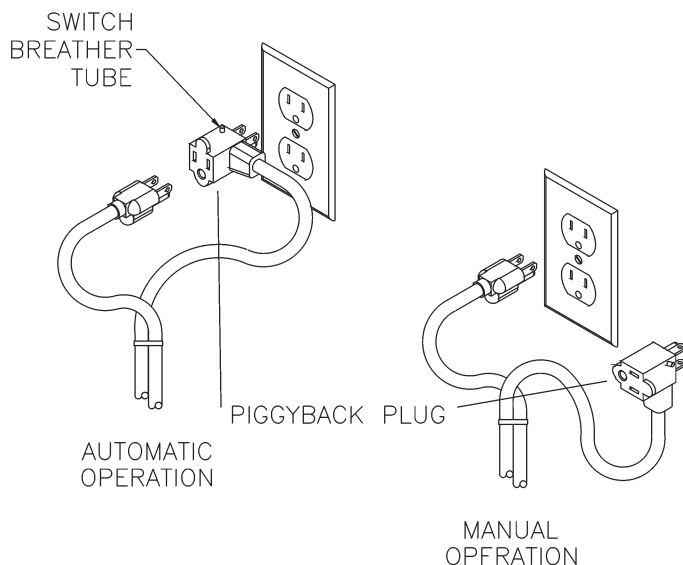

FIG. 1
AUTOMATIC OPERATION (APCP Models Only): The water level switch, rated 10 Amps, is activated by pressure against a diaphragm. This is caused by water rising around the switch housing with the pump resting upright on the stabilizing plate. This switch relies upon air to flow through a "breather tube" (See Figure 1). The switch should cause pump plugged into piggy back plug, (See Figure 1), to come on when the water level is approximately 2-3 inches deep. Pump should remain running until the water level is approximately .50-1.50 inches deep. Note: Temperatures near freezing may cause the "ON" level to go as high as 4 inches, and the "OFF" to be as high as 2 inches.
1. Your pump is supplied with a 3-prong electrical plug. The diaphragm switch on APCP models is supplied with a 3-prong piggyback plug/receptacle on the cord. The third prong is to ground the pump to prevent possible electrical shock hazard. Do not remove the third prong from the plugs. For automatic operation, plug pump plug into piggyback receptacle, then plug piggyback plug into properly grounded outlet. For manual operation, plug pump plug directly into properly grounded outlet. These connections are illustrated in Fig. 1.
4. Switch cord contains a small white breather tube which extends out of switch plug (see Fig. 1). Be sure switch cord is not pinched and non-restrictive air flow can occur in breather tube. Do not allow water to enter into breather tube. Non-restricted air flow is required for proper switch operation.